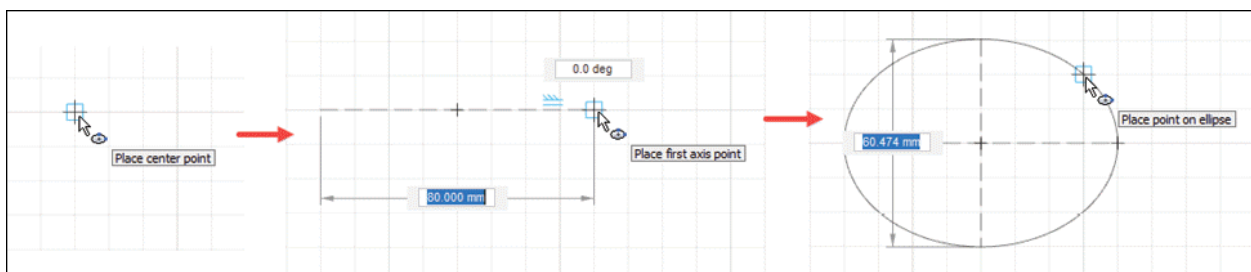

Figure-30. Creation of ellipse
- Click on the screen and move the cursor upward/downward. You will be asked to specify length of minor axis. Enter desired value of minor diameter in the input box; refer to Figure-30. The ellipse will be created.